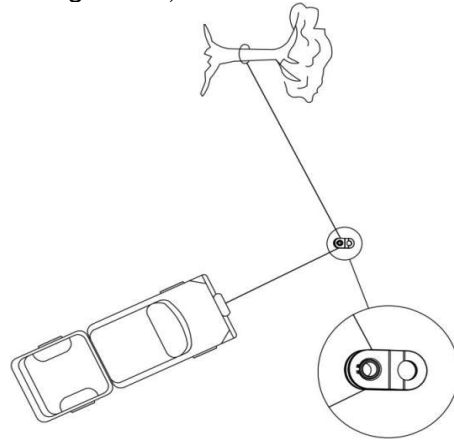

Figure 4-9
- Change the Pulling Direction. (See Figure 4-9)